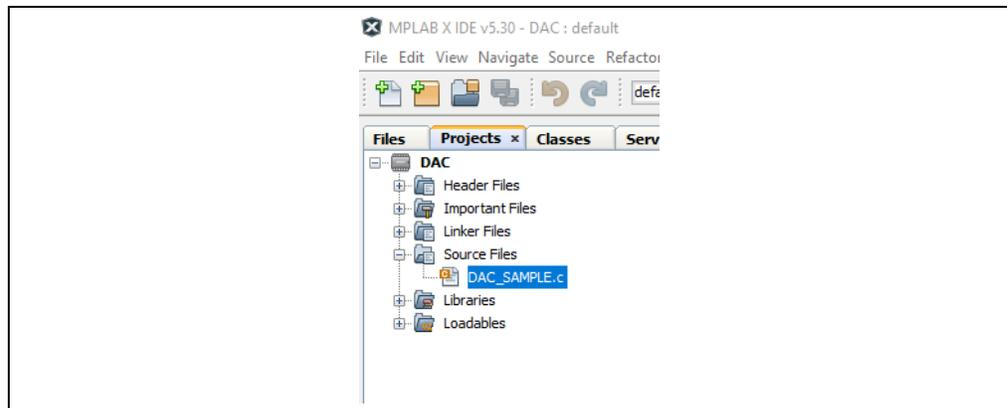

FIGURE 2-11: Add a Source File.
- 2l) This will add the code contained within the `DAC_SAMPLE.c` file to the source code, as shown in Figure 2-11.